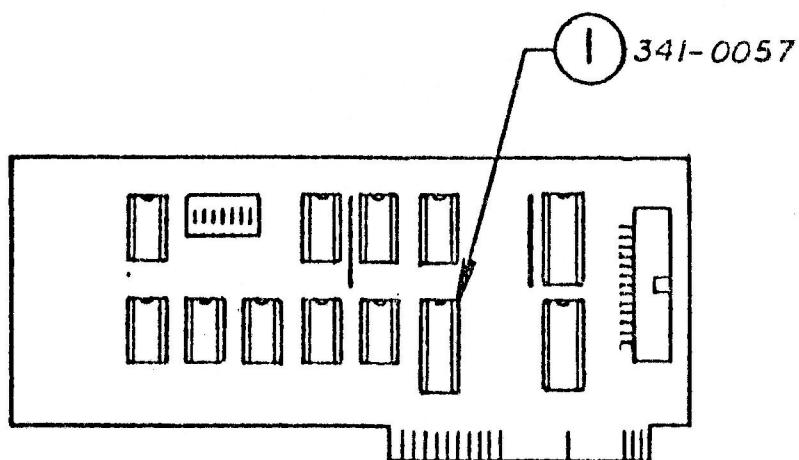

FIGURE 6
- IPL.7 Parallel Printer Board (Figure 6)
PARALLEL PRINTER BOARD (Figure 6)